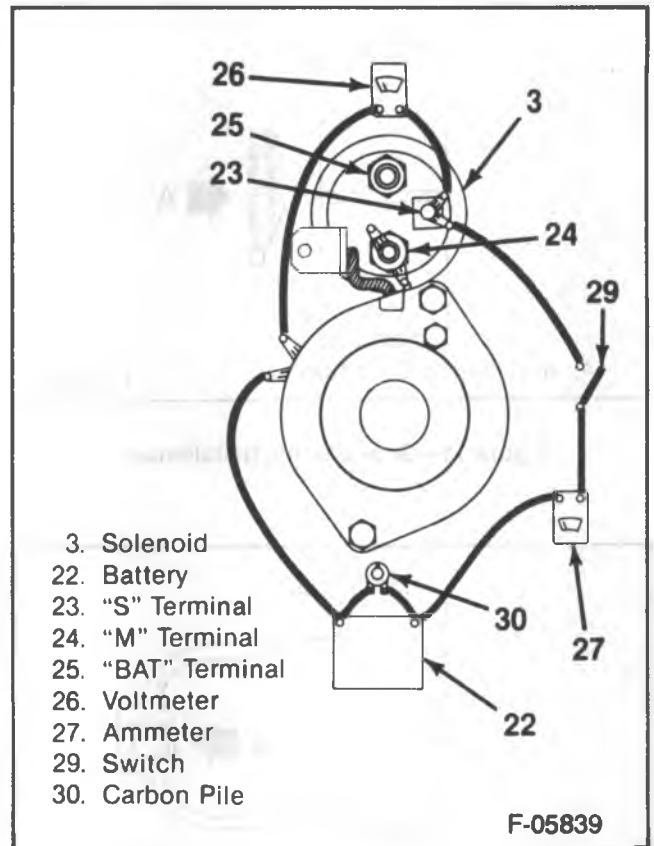

Figure 9—Hold-In Winding Test Connections
- With all the leaks disconnected from the solenoid, make the test connections as shown in figure 9.